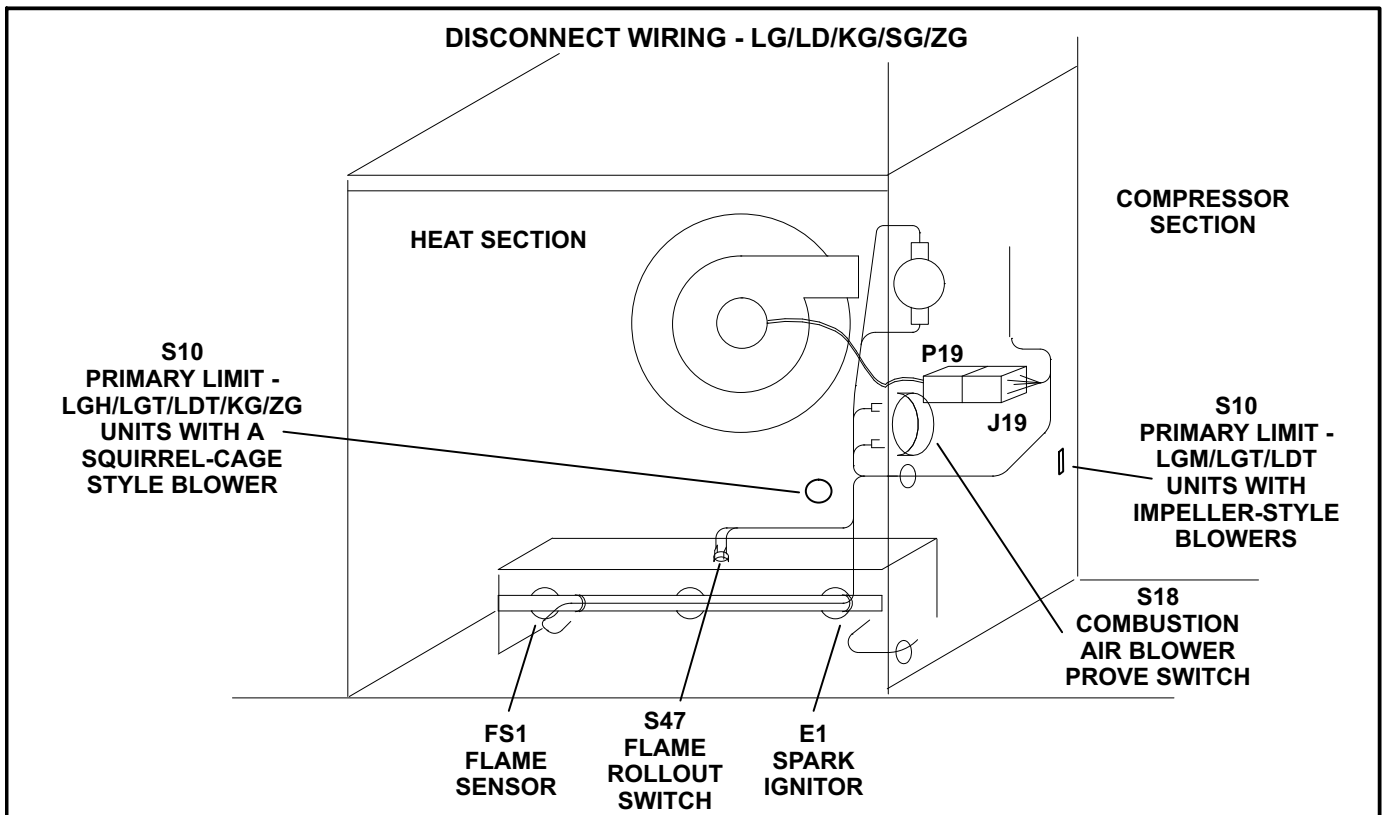

FIGURE 3
- 6- Disconnect P19 from J19. See figure 3.
- 7- Disconnect wiring to ignitor, flame sensor, combustion air blower prove switch, and flame rollout switch. On LG/LD/KG/SG/ZG units, disconnect wiring to the primary limit. See figure 3.
- 8- Remove the two screws securing the combustion air blower prove switch. Discard the switch if tabs are broken. Retain the switch for reassembly if tabs are intact. See figure 3.
- 13- Remove J19 from the division panel between the heat and compressor sections. See figure 3.